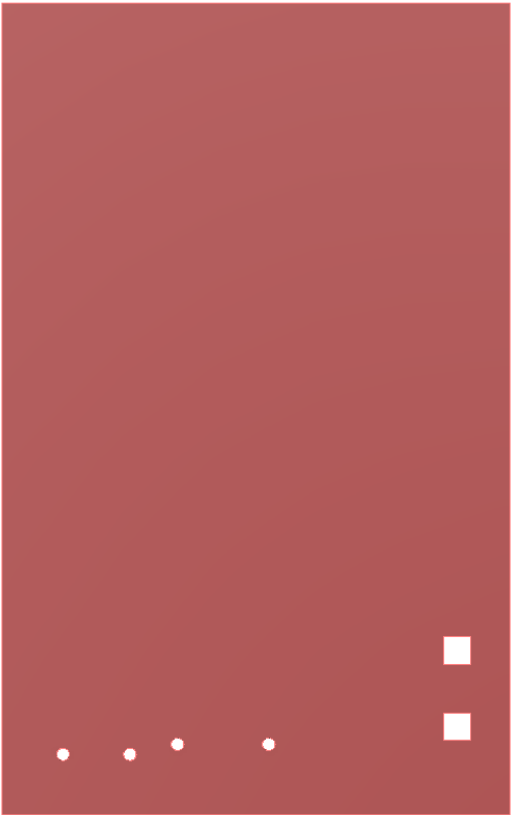

Figure 2: Acrylic Base Plate
1. Place the speaker holder (Figure 5) in the acrylic base plate (Figure 2) and hot glue it.